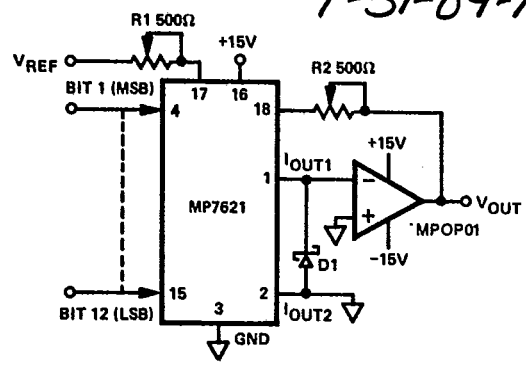

Figure 15. Unipolar Binary Operation
The digital input is offset binary coded and multiplies V_{REF} according to Table 2. Resistors R1 and R2 should be equal within 0.1% at all temperatures, but need not track the resistors within the MP7621. D1 and D2 perform the same function as in Figure 15. Network R3, R4, R5 sum $\frac{1}{2}$ LSB of current into I_{OUT2} to ensure correct coding at zero.
1. Protection diodes as shown in Figures 15 and 16.
Table 1. Code Table for Circuit of Figure 15.
With the MP7621 connected in its normal multiplying configuration as shown in Figure 15, the transfer function is